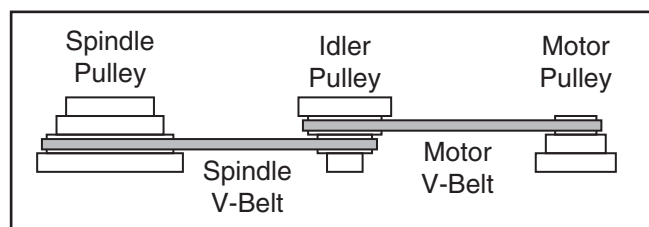

Figure 29. V-belts configured for a spindle speed of 360 RPM.
Step 6: Position the motor V-belt on the third pulley from the bottom of the idler and motor pulleys, as shown in **Figure 29**, then position the spindle V-belt on the second pulley from the bottom of the spindle and idler pulley.